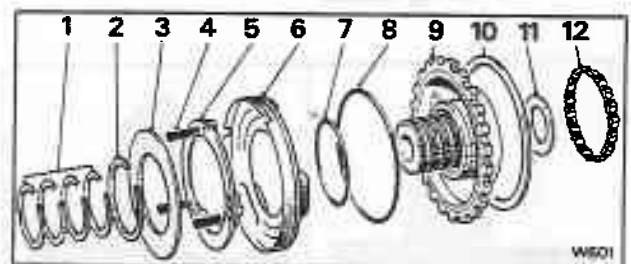

Fig. T20-3 Centre support assembly
1. Remove and discard the four oil seal rings from the centre support (see fig. T20-3).